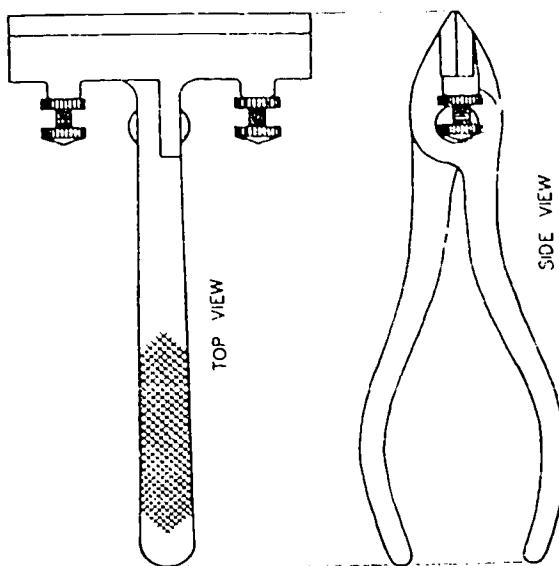

Figure 3-20. Hand seamer.
**Hand seamers.** Hand seamers are used to fold light gage metal and to form seams or joints. Figure 3-20 illustrates two views of a hand seamer you may use that has screws on either side of the head. These are adjustable for different width seams. Jam nuts prevent the screws from slipping, which might cause an uneven bend while folding the seams. This is also true for bends longer than the width of the hand seamer. The hand seamer is useful when turning edges for seams on small jobs and when the brake or bar folder is not available.